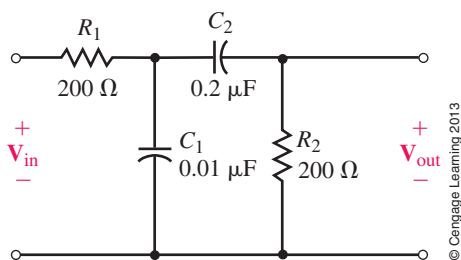

FIGURE 22–56
44. Repeat Problem 43 for the circuit of Figure 22–57.